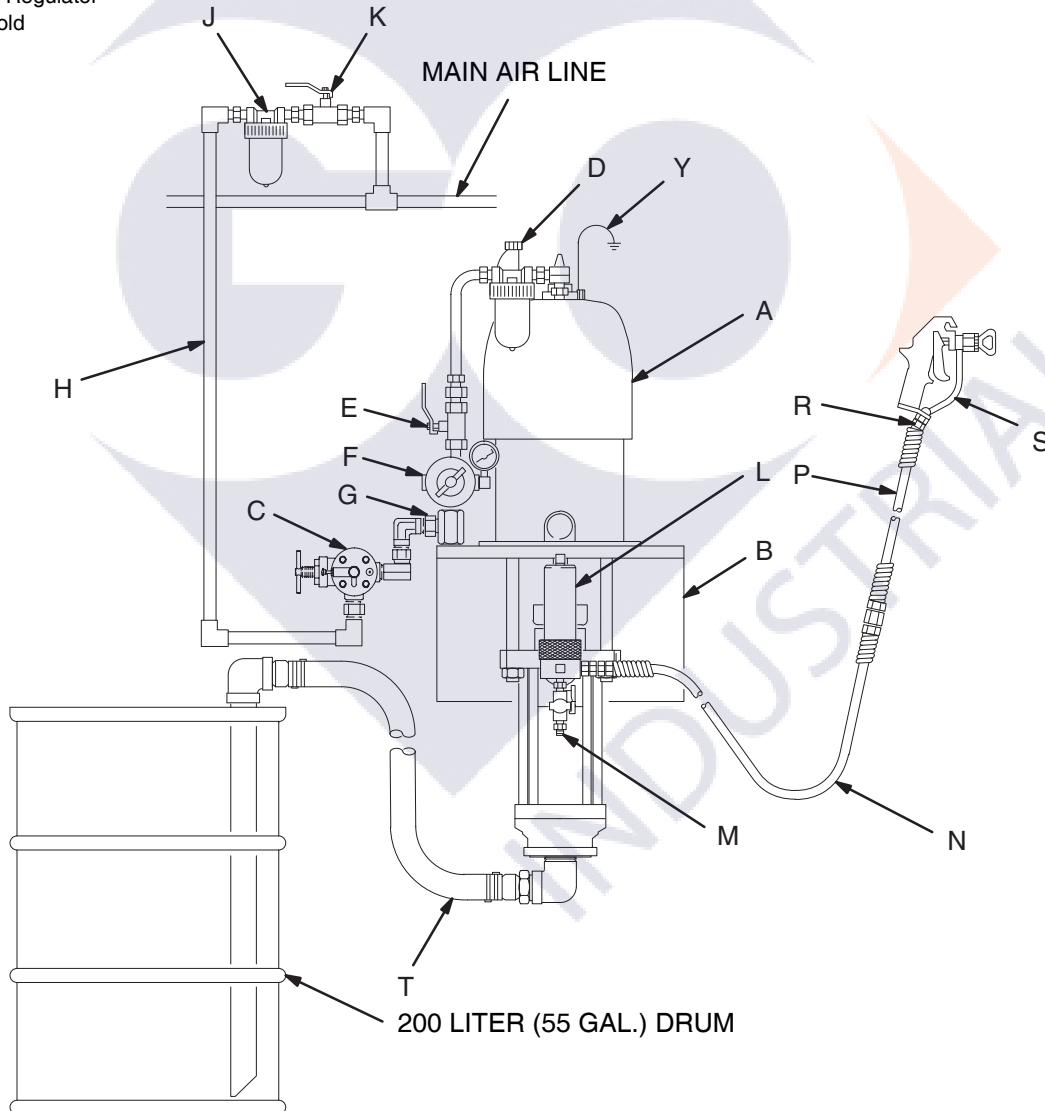

Fig. 4
Fig. 4 is only a guide for selecting and installing system components and accessories. Contact your Graco distributor for assistance in designing a system to suit your particular needs.
Mount the pump (A) to suit the type of installation planned. Fig. 4 illustrates a wall-mounted system. Pump dimensions and the mounting hole layout are shown on pages 36 and 37.
Install the following accessories in the order shown in Fig. 4, using adapters as necessary:
Install the following accessories in the positions shown in Fig. 4, using adapters as necessary:
- **A fluid filter (L)** with a 60 mesh (250 micron) stainless steel element, to filter particles from the fluid as it leaves the pump. It includes a **fluid drain valve (M)**, which is required in your system to relieve fluid pressure in the hose and gun (see the **WARNING** at left).
- **A gun or valve (S)** dispenses the fluid. The gun shown in Fig. 4 is an airless spray gun for light to medium viscosity fluids.
- **A gun swivel (R)** allows freer gun movement.
- **A suction kit (T)** allows the pump to draw fluid from a 200 liter (55 gallon) drum.